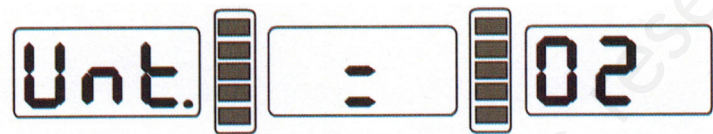

Fig. 12-2
2. Press b+ or b- key, display ect figure 12-2, denotation is Oz